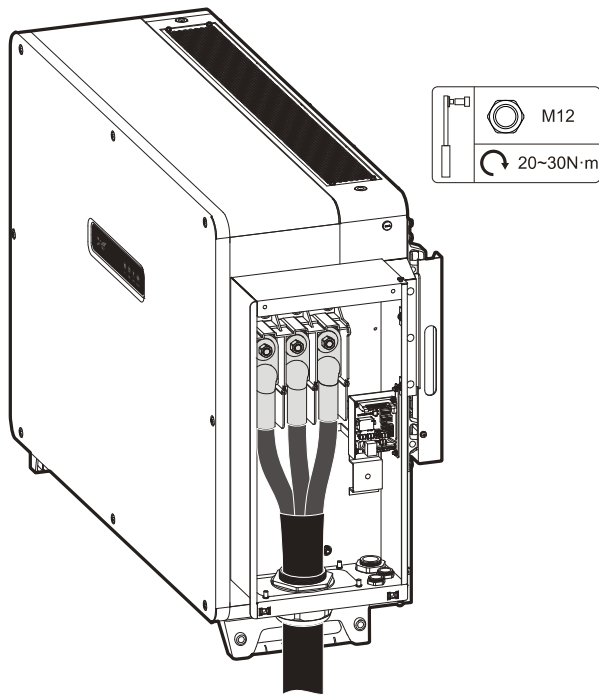

Figure3-32 Connect the AC output cable
- Step 2 Loosen the external forced cable fixing head of AC terminal, lead the L1, L2, L3 wires go through the external forced cable fixing head, and use a wire stripper to strip the L1, L2 and L3 respectively, and crimp them to the terminal, and then connect to the AC output terminal block, as shown in Figure3-32.